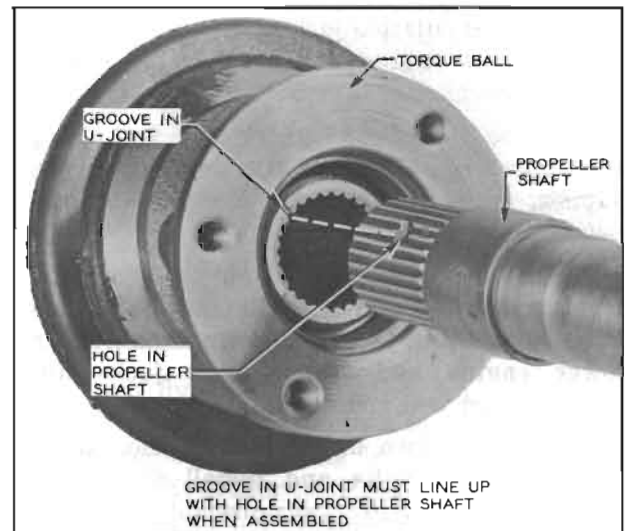

Figure 4-14—Aligning Propeller Shaft with Front Universal Joint
7. With transmission in neutral, rotate universal joint until either groove in rear edge is straight down. Then lock in position by shifting transmission (Dynaflow into Park or synchromesh into any gear). See figure 4-14. Install two torque tube guide pins. Move torque ball to align with torque tube flange and move axle assembly into place with hole in propeller shaft splines straight down. Rotate a rear wheel if necessary to keep hole in propeller shaft lined up with groove in universal joint. **CAUTION:** *If these two markings are not aligned, the front and rear universal joints will be out of alignment, resulting in a severe vibration.*